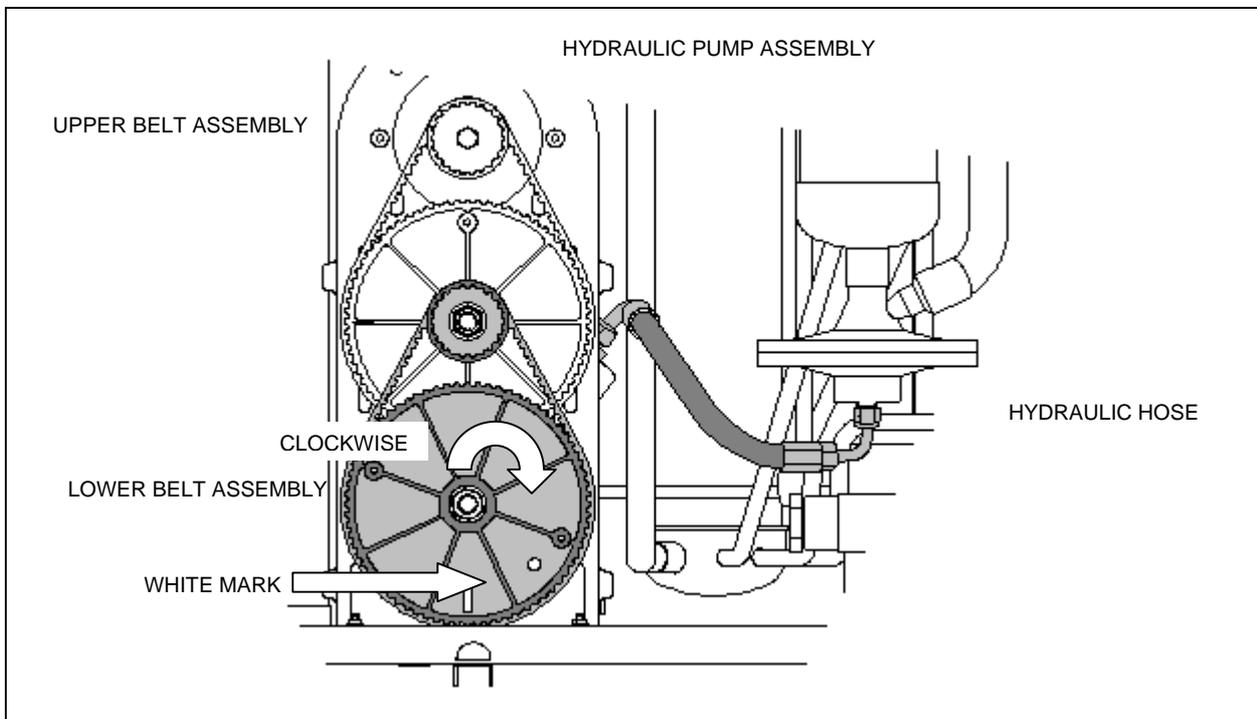

Figure 34 –LOWER PULLEY AT THE 6 O’CLOCK POSITION (BDC)
6. Turn the pulley clockwise to where the white mark is in the 6 o'clock position (the bottom-dead-center BDC as shown in Figure 34).